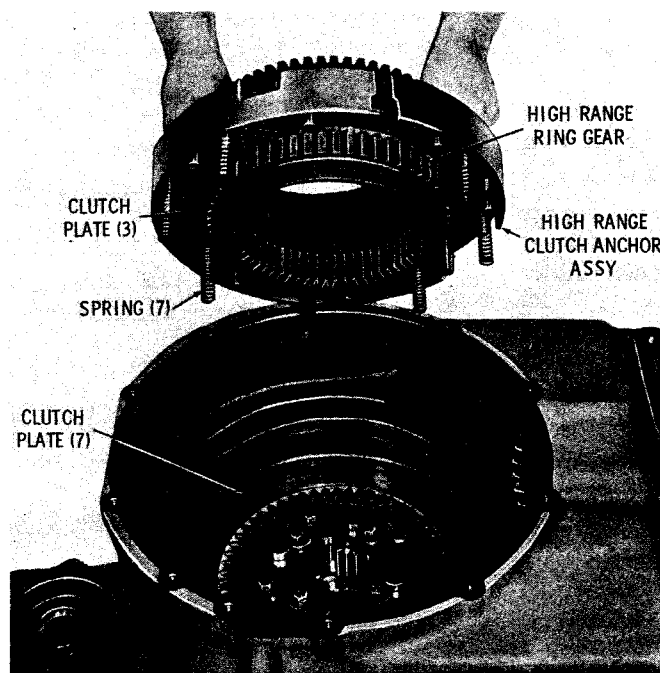

Fig. 5-26. Removing high-range clutch anchor and high-range ring gear
(2) Grasp the high-range ring gear, and remove the following parts as a unit: high-range ring gear, high-range clutch anchor and three clutch plates (fig. 5-26). Separate these parts. Remove seven clutch return springs. Remove the remaining seven clutch plates from the housing. Refer to paragraph 6-14 for high-range clutch anchor rebuild.